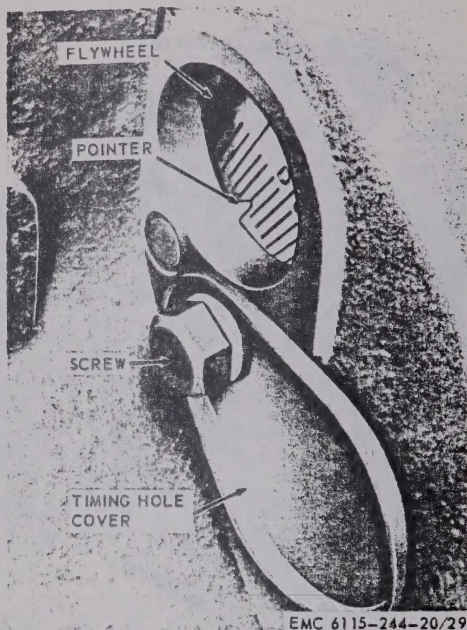

Figure 29. Timing marks.
- (1) Remove the rear (number four) spark plug (par. 98).
- (2) Turn the engine over, with the thumb over the rear spark plug hole, until air is exhausting on the compression stroke.
- (3) Continue to turn the engine until the "DC" mark on the flywheel lines up with the pointer in the timing hole opening as shown by figure 29.
- (9) Connect a neon timing light, of suitable voltage, to the number four spark plug.
- (10) Start the engine and run at idle speed (TM 5-6115-244-10).
- (11) Hold the timing light as close as possible to the timing hole opening (fig. 29).
- (12) As the light flashes, the "DC" mark on the flywheel should line up with the pointer in the timing hole opening. If it does not, loosen the magneto mounting hardware and rotate the magneto until the "DC" mark lines up with the pointer as the light flashes. Tighten the magneto mounting hardware.